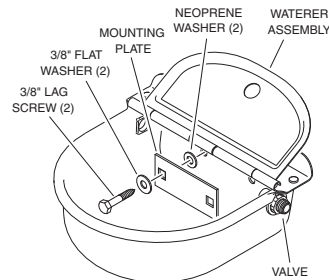

Figure 2
5. Install the waterer as shown (see Figure 2 or 3).